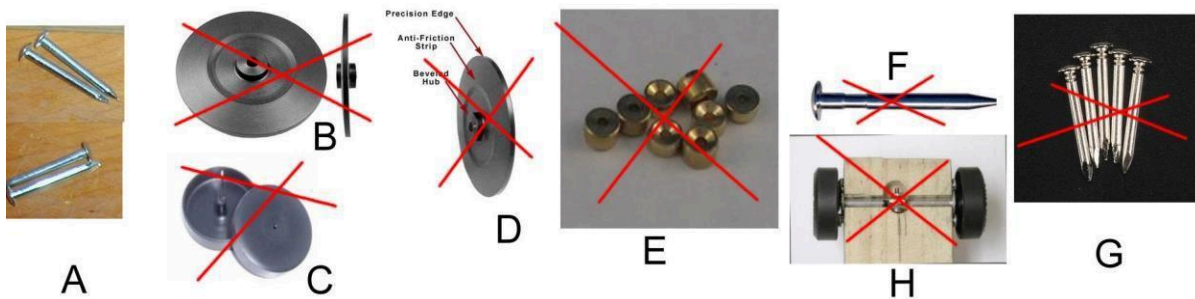

Figure 9: Axels and Wheels
- 3.3.15 Blade wheels even if found by a BSA source or stamped official BSA shall be strictly prohibited. (Figure 9: Letter B and D)
- 3.3.16 Only Official Cub Scout Pinewood Derby axles shall be used. (Figure 9: Letter A.)
- 3.3.19 Solid axles are strictly prohibited. (Figure 9: Letter H)
- 3.3.20 Wheel bearings, washers, or bushings are strictly prohibited (Figure 9: Letter E)